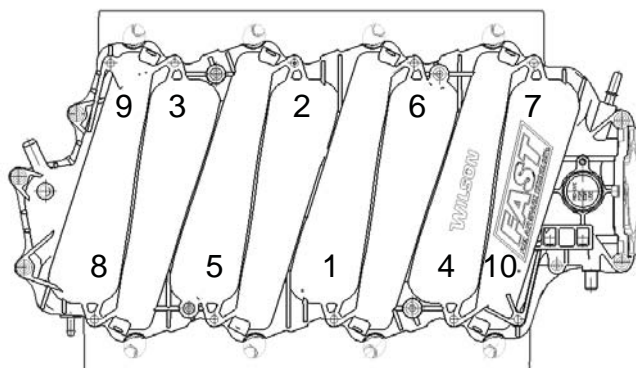

Fig.19
- 5) Using two passes in the sequence shown (Fig. 19). First pass (45 in/lbs), final pass (89 in/lbs). **Caution: Over-torquing will damage the manifold and cause improper sealing!**
- 6) Throttle Body Installation: Using (4) M6 bolts provided, position to manifold, apply a dab of thread lock to M6 bolts and tighten to (50 in/lbs). **NOTE:** OEM LS1/LS6 throttle bodies require FAST™ Part #146029-KIT adapter kit. OEM LS2 throttle bodies are a direct bolt on.